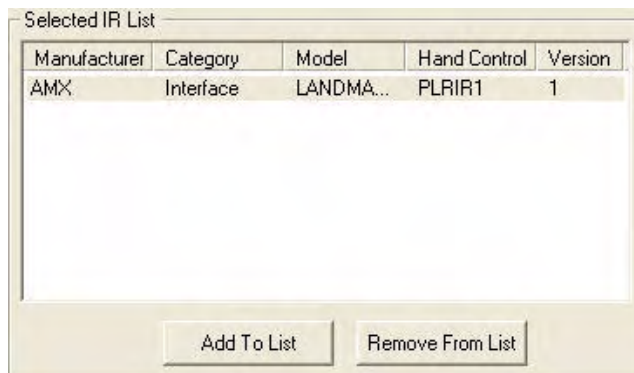

FIG. 84 Selected IR List pane
3. To add this IR file to the download list, click **Add to List** and the IR file will appear in the *Selected IR List* pane. To remove an accidentally selected IR file, highlight the file to be removed in the *Selected IR List* pane and click **Remove From List** (FIG. 84). When finished, click **OK**.